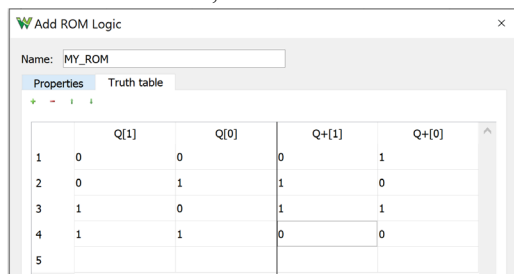
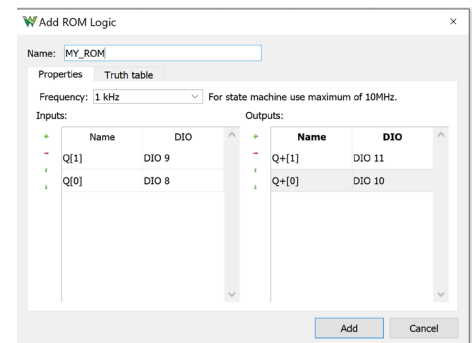
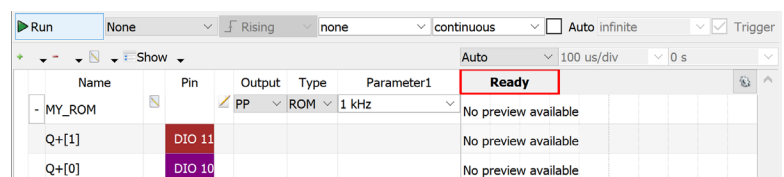

Figure 22: Setting up ROM Truth Table
Figure 21: Setting up a ROM
Figure 23: ROM Preview
**ROM:** The DAD can be used to emulate ROMs (Read-Only Memory) using the Pattern Generator. Configure a ROM by selecting the green +, ROM. Give your ROM a name such as My Rom. Only Digital I/O signals 9-0 can be used as inputs, but all Digital I/O signals can be used as outputs. Under the properties tab you can add inputs using the green + under Inputs and add outputs using the green + under Outputs, see Figure 21. To enter data into the ROM, select the truth table tab and enter your data into the truth table, see Figure 22. Press add. See Figure 23.